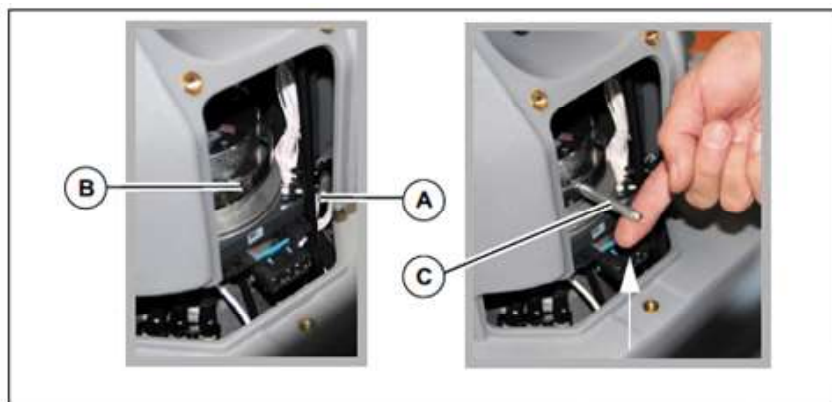

Figure 9.2
2. Remove the pin **Fig. 9.2-A** from the holder and screw it into the ring **Fig. 9.2-B**.
3. In order to unlock the parking brake, slightly pull the pin upwards **Fig. 9.2-C** and simultaneously push the machine.